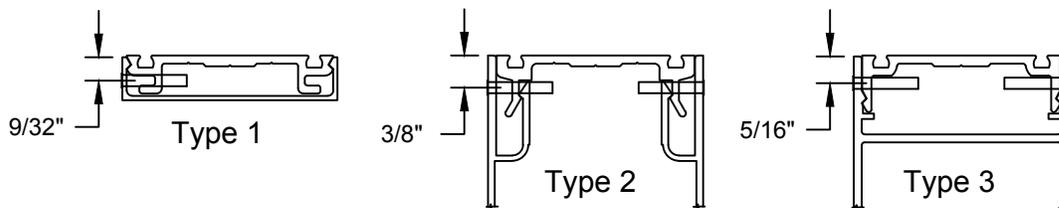

Figure 24
- 3.13 Install vertical face covers. Using a wood block to protect the cover, apply with dead blow soft face hammer. Pin the vertical face covers once per length as required, concealing pin at a horizontal location. (See **FIGURE 24**, **page 27** for further information for fastening of covers.)
See **FIGURE 24** for three common pressure plate and face cap installations, other custom profiles may be used and attached following this method. Type 1 may be used up to 4" in depth. Type 2 and 3 are for caps 4" or greater, with type 3 being preferred for any cap or cap assembly greater than 8". All caps shown below will be attached using a (FS-317)1/8" x 3/4" S.S. Headed Roll Pin. Drill cap and pressure plate with a 1/8" (.125") clearance hole.